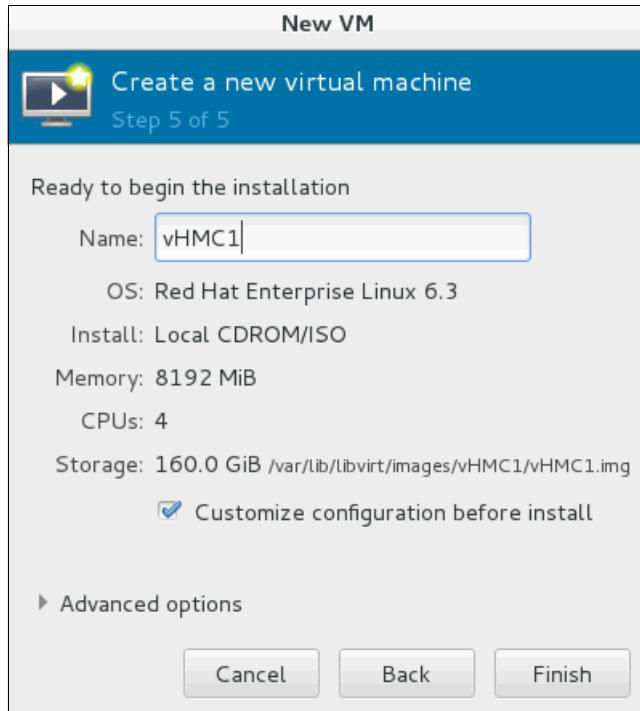

Figure 3-27 Select name for the VM
7. In the next panel (Figure 3-27), specify a name for the VM, select **Customize configuration before install**, and click **Finish**.